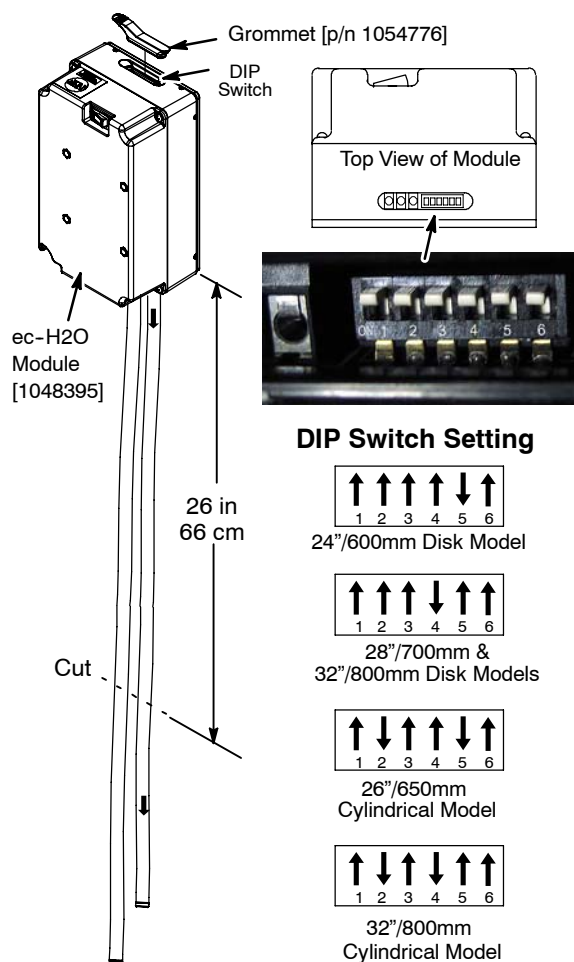

Fig. 28
1. Cut the two *ec-H2O* module hoses to the specified length and set the DIP switch settings accordingly (Figure 28). Install the DIP switch grommet [p/n 1054776].